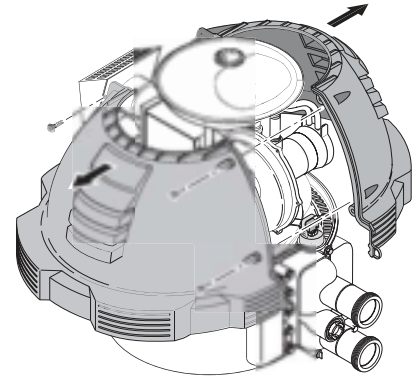

Figure 28.
5. Remove the jacket cover(s) by unfastening the screws connecting both halves of the top jacket, see **Figure 28**.
3. Remove the jacket cover(s), see **Figure 28**.